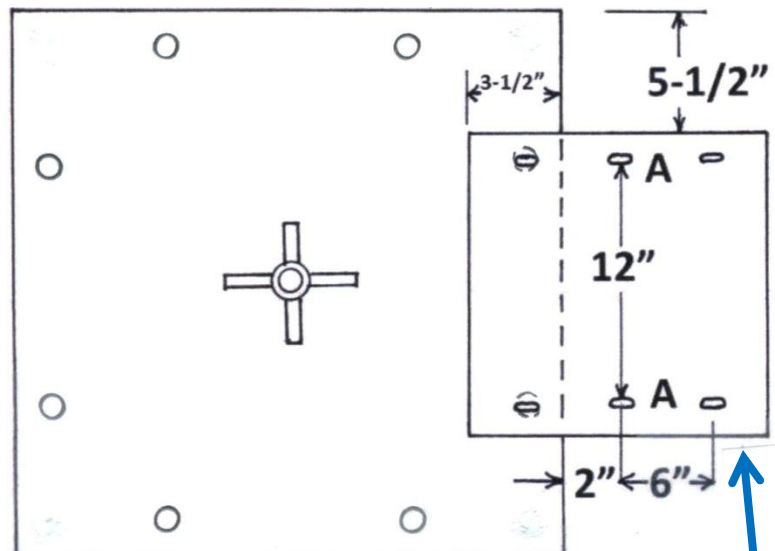

FIG. 2
2. (Fig. 2) The diameter and length of the davit base pin must also be identified.
1. Davit Base and Power Pivot Base layout is shown in (Fig. 2)
2. For standard Davit Master Eight Hole base patterns, use two of the existing bolts as shown plus install two anchor bolts to correspond with a pair of the (A) hole locations.
3. Other brand davit bases may require drilled mounting holes as well as anchor bolts for (A) hole locations.
9. Place power pivot base to the left, right or rear of davit base and between the channel braces. Slide Power pivot in toward center of davit base a distance of 3-1/3" and over from edge of base 5-1/2". **See Fig. 2**